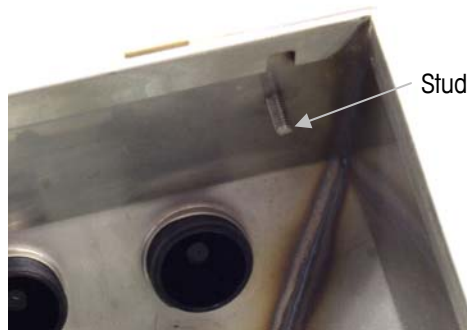

Figure 2-8: Stud for Attaching Reversed Front Panel
3. Carefully rotate the front cover 180 degrees and reattach the two grounding straps to the two studs near the grip bushings using the two nuts removed in the previous step. Figure 2-8 shows one of the studs. Tighten the two nuts.